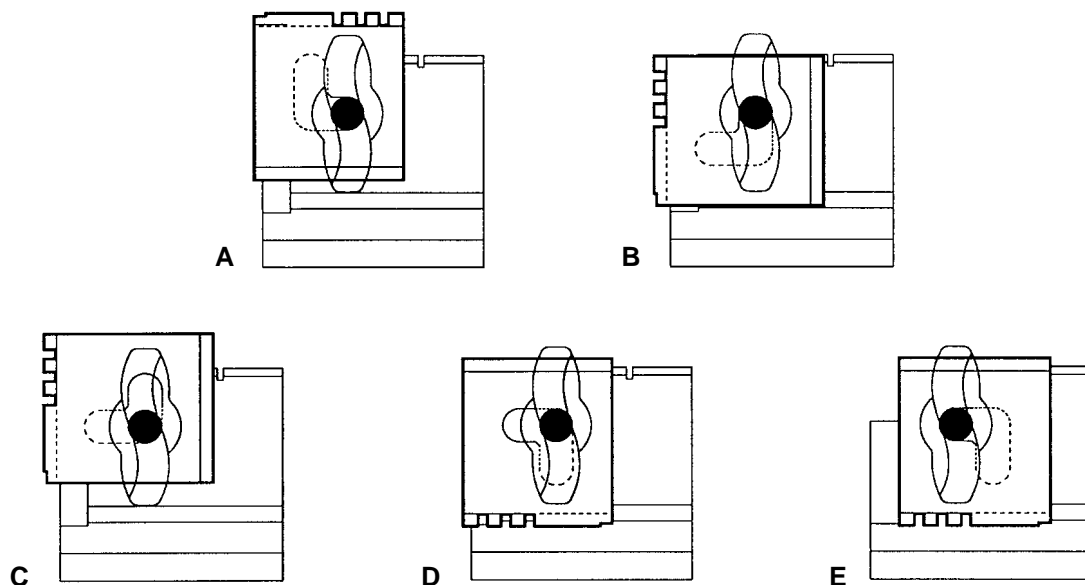

Fig. 18
- 1) move the jaw upwards then to the left (fig. 18-A);
- 2) from this position, turn the jaw 90° to the left (fig. 18-B);
- 3) raise the jaw as shown in fig. 18-C and turn 90° to the left (fig. 18-D);
- 4) move the jaw to the right (fig. 18-E).